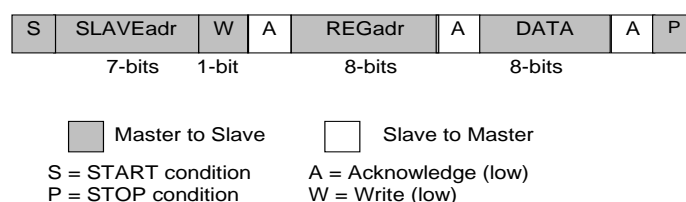
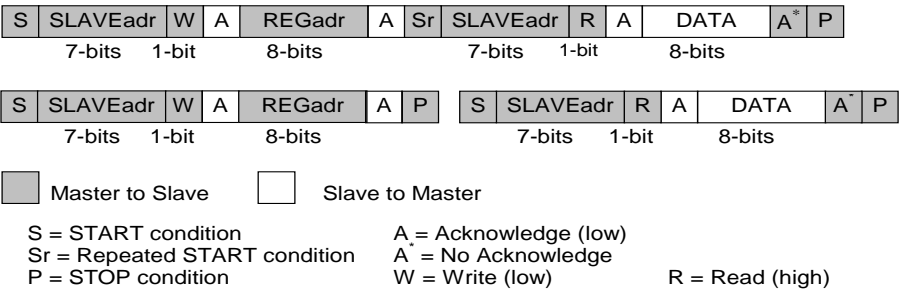

Figure 22: I²C Byte Write (SDA Line)
Figure 23: I²C Byte Read (SDA Line) Examples
The I²C bus is monitored for a valid slave address whenever the interface is enabled. It responds immediately when it receives its own slave address. The acknowledge is done by pulling the SDA line low during the following clock cycle (white blocks marked with A in Figure 22 and Figure 23).
The protocol for a register write from master to slave consists of a START condition, a slave address with read/write bit, and the eight-bit register address followed by eight bits of data, terminated by a STOP condition. DA9220 responds to all bytes with acknowledge (A), see Figure 22.
When the host reads data from a register it first has to write to DA9220 with the target register address and then read from DA9220 with a repeated START, or alternatively a second START, condition. After receiving the data, the host sends no acknowledge (A*) and terminates the transmission with a STOP condition, see Figure 23.